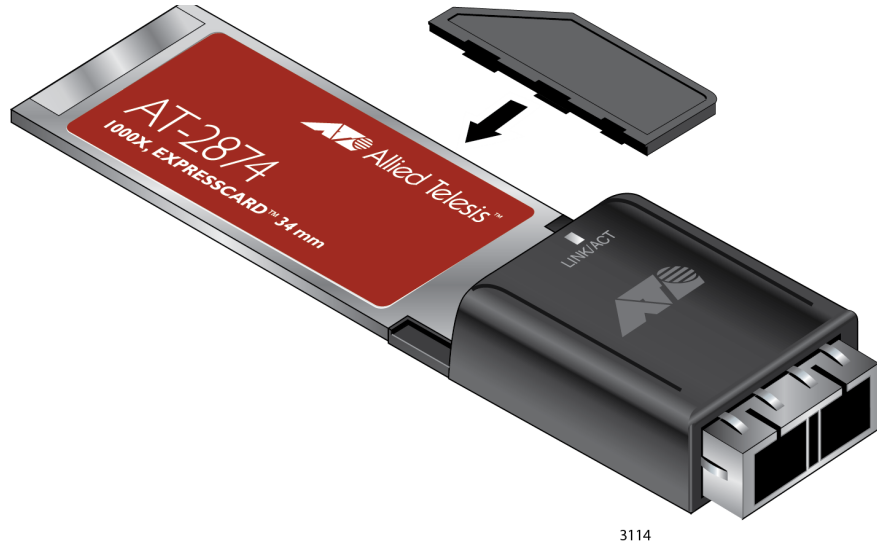

Figure 9. Attaching the Stabilizer to the AT-2874SX ExpressCard
5. When installing the ExpressCard in the 54mm Express Card slot, attach the stabilizer to the card as shown in Figure 9.